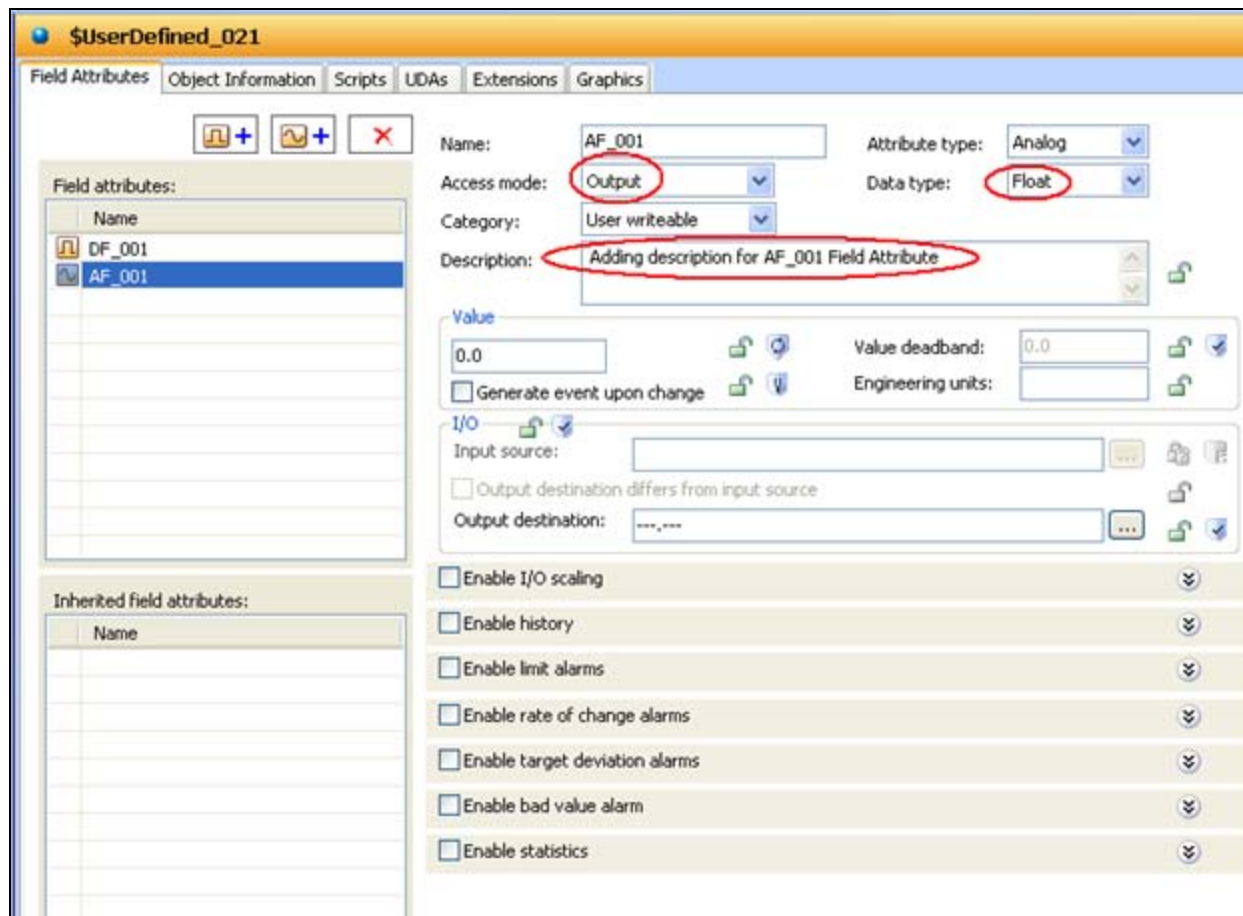

FIGURE 1: ANALOG FIELDATTRIBUTE AF_001 TARGET PROPERTIES
Manual IDE configuration for this requirement are typically done by simply opening the **\$UserDefined** template for editing, clicking on the Analog Field Attribute – AF_001 (Figure 1 below).
- Type the specified text for your Description (Figure 1 below).